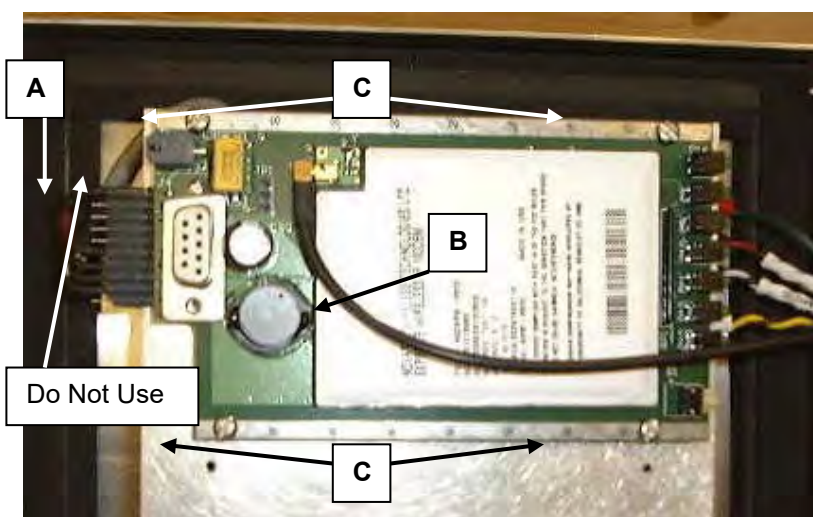

Figure 8-1 Cellular digital pocket data modem (CDPD)
1. Disconnect connector (A) in Figure 8-1.
2. Disconnect the cable (B) from the antenna.
3. Remove the screws, (C).